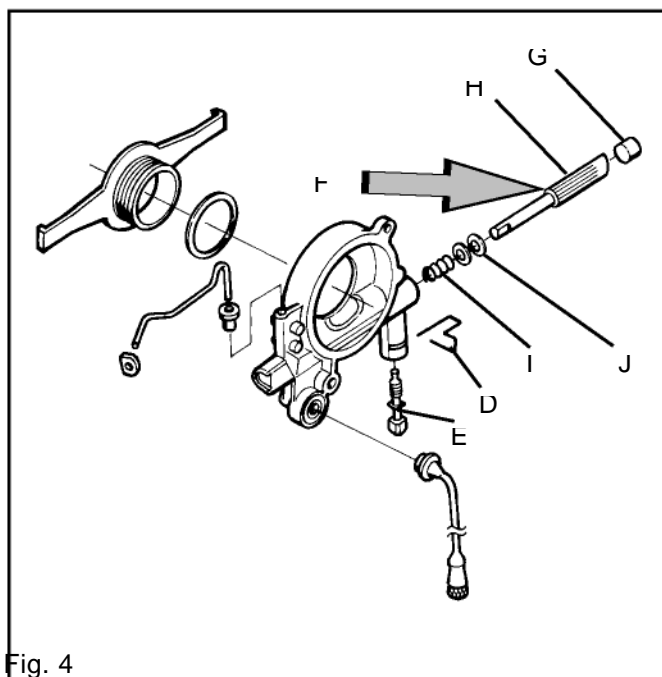

Fig. 4
5. Using a screwdriver, lever in the lip of the spring such that the spring sticks out a little on the other side. See fig. 4.
1. Locate the clutch shoes on the hub and fit the springs with the help of circlip pliers. See fig. 4.
7. Remove the clip (D) and unscrew the adjuster screw (E). See fig. 4.
8. Using pliers, press on the plug piston at F so that the cover plug (G) and piston (H) can be removed. See fig. 4.
9. Using pliers, remove the spring (I) and the two washers (J). See fig. 4.
2. Locate the spring (I), 2 washers (J) and pump piston (H) in the pump casing. Oil in all components with chain oil. See fig. 4.
3. Using a screwdriver, push in the pump piston and screw home the adjuster screw (E) fully. See fig. 4.
4. Locate the cover plug. (G). See fig. 4.
5. Fit the clip (D). See fig. 4.
In cold start mode (fig. 4), the choke butterfly (D) is completely closed. This increase the vacuum in the carburettor so that fuel is sucked more easily from the diffuser jets (E, F and G). The throttle butterfly (H) is partially open.